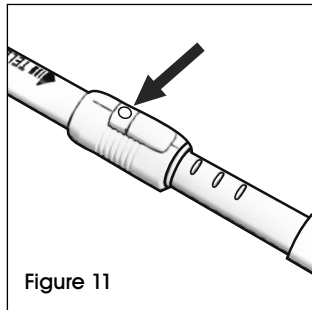

Figure 11
4. To extend the cleaning reach of the wand, push the dark gray button nearest the handle, and pull down on the outer wand section. Reverse the process before returning the wand to the storage position. (See Figure 11)